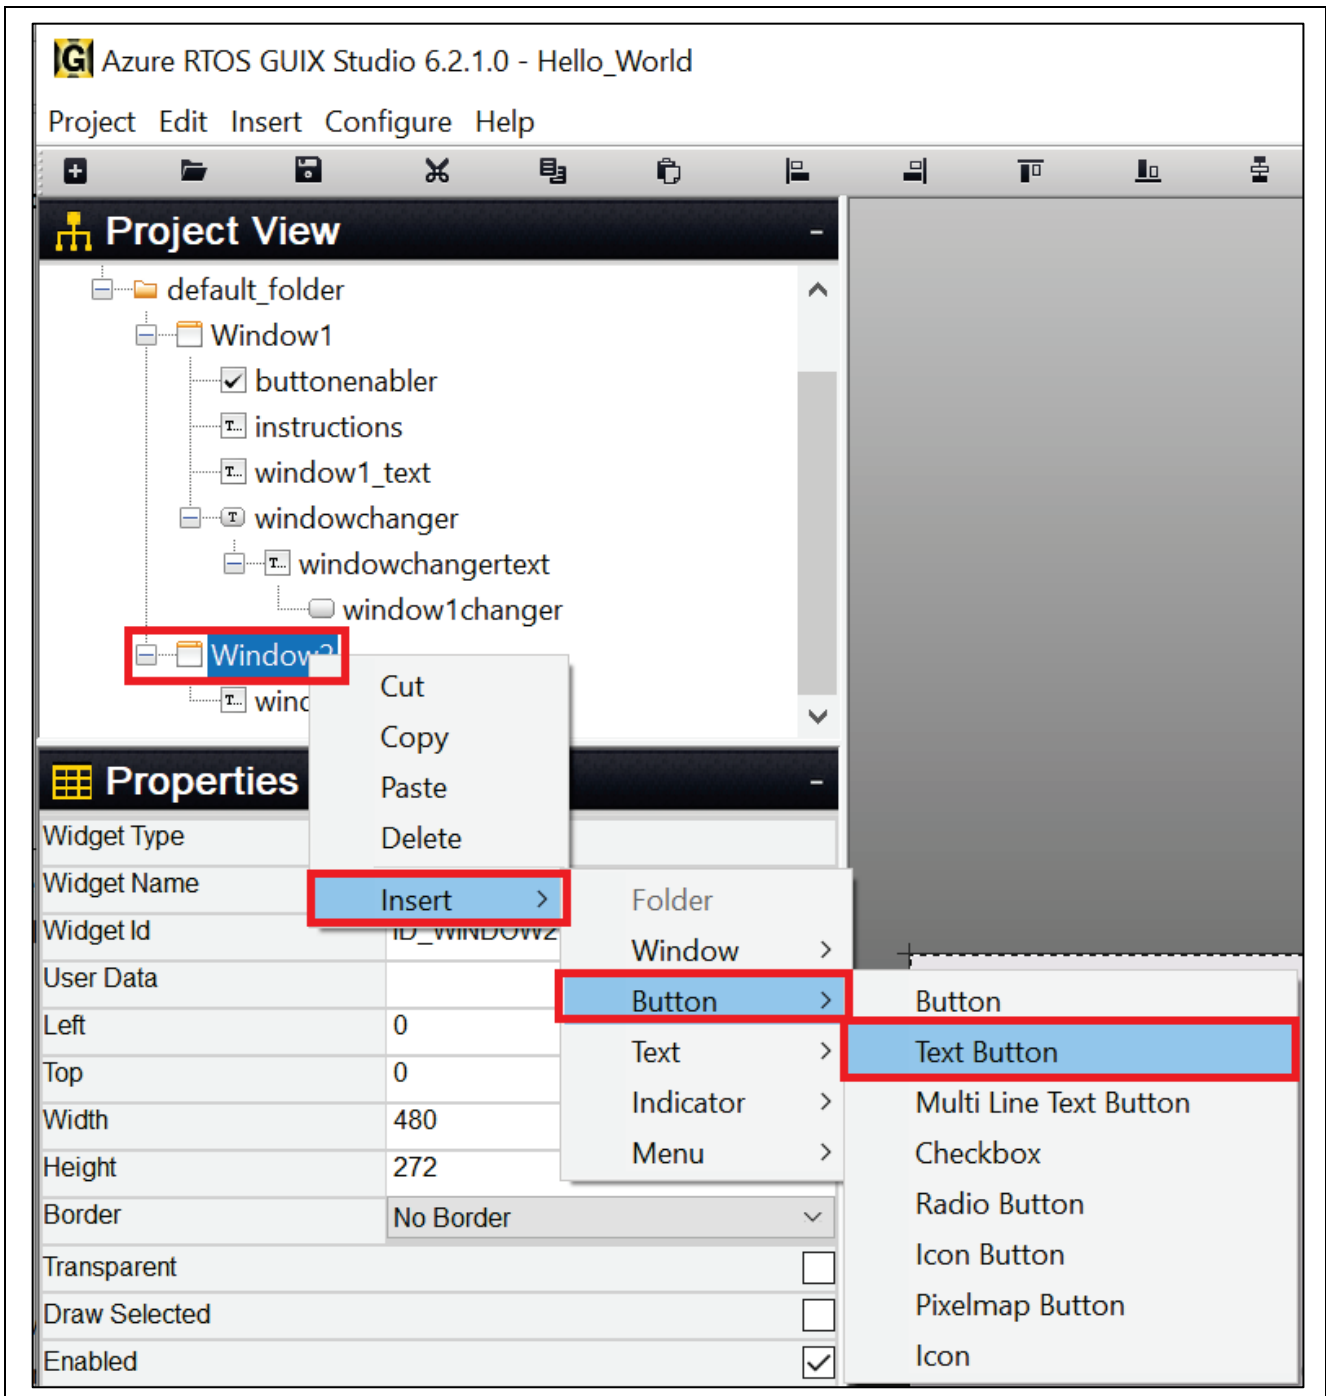

Figure 65. Insert text_button for Window2
27. Insert **text_button** for window2. Right click from **Window2** > **Insert** > **Button** > **Text_Button** follow Figure 65.